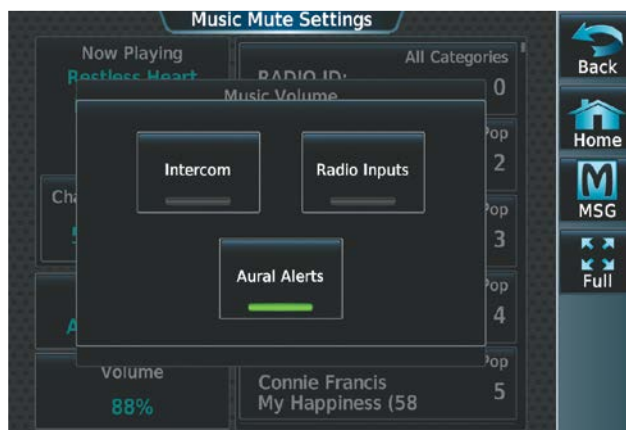

Figure 8-98 Mute Settings
- 2) Touch the **Intercom** Annunciator Button (Figure 8-98) to select/deselect automatic soft muting of entertainment audio when intercom audio is present. This function is active when the annunciator is green.